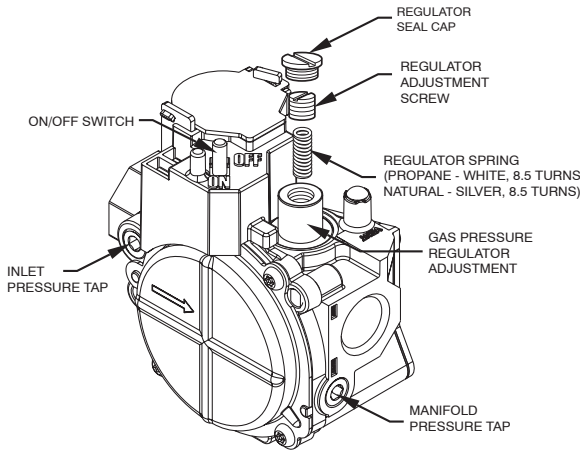

**Fig. 10 - Single Stage Gas Valve Series G / J**
6. Turn regulator adjustment screw clockwise (in) 8.5 turns for Fig. 10. Go to Step 3